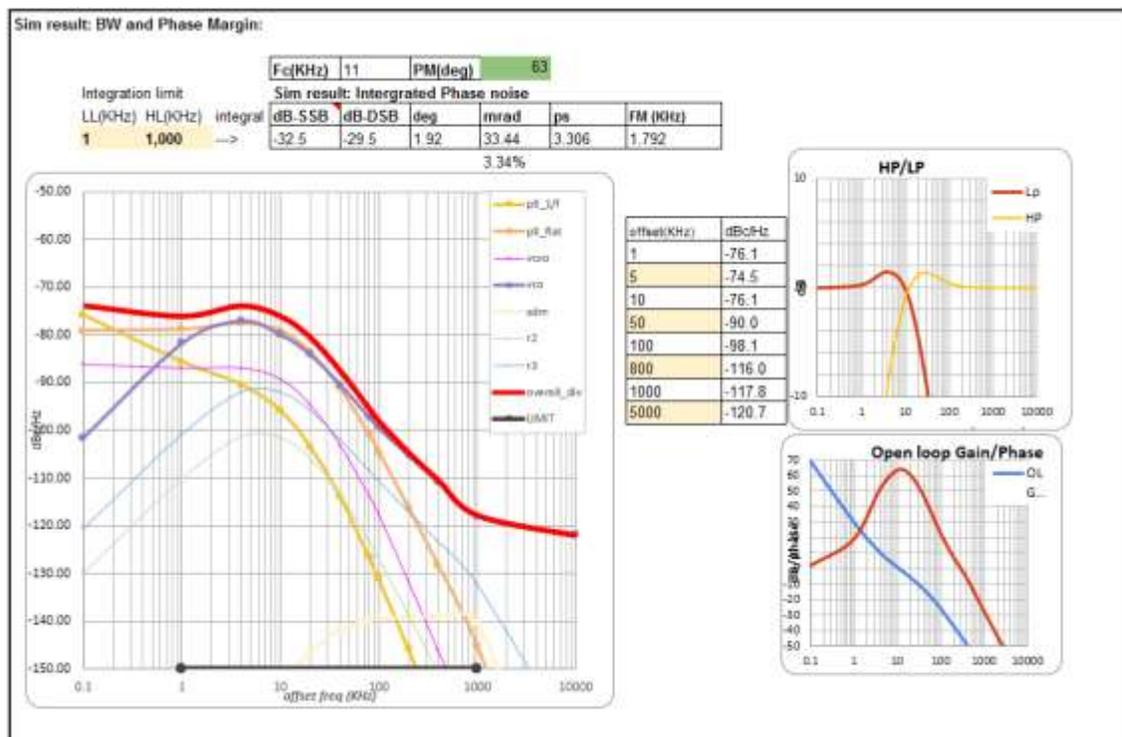

Figure 8. Simulation results.
| Figure 8. Simulation results.....                                  | 8 |
5. Figure 8.